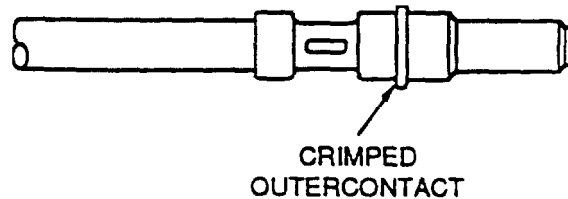

Figure 28. Crimp Outer Contact
j. As shown in Figure 28, crimp outer contact to cable assembly using crimp tool frame M22520/19-01 and positioner M22520/19-02.
e. Crimp outer contact to braided shield of cable, using crimp tool frame M22520/21-01 and positioner M22520/21-02 (Figure 28). When crimping outer con-
g. Crimp outer contact to braided shield of cable using crimp tool frame M22520/21-01 and positioner M22520/21-02 (Figure 28).